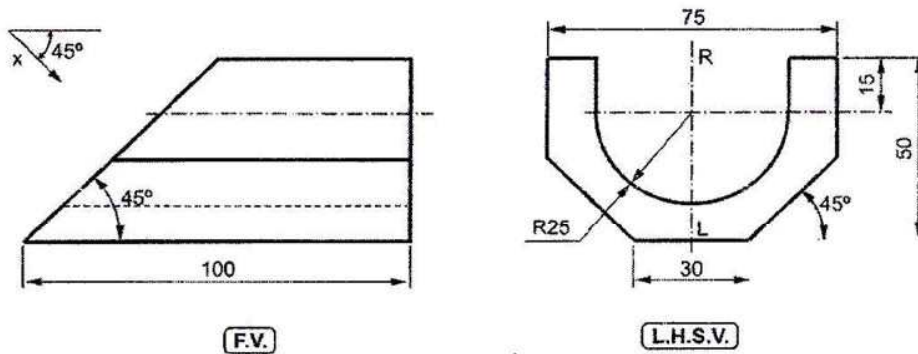

Fig. No. 4
6. Machine Component is shown in the Fig. No. 4. Draw to full scale the following views :